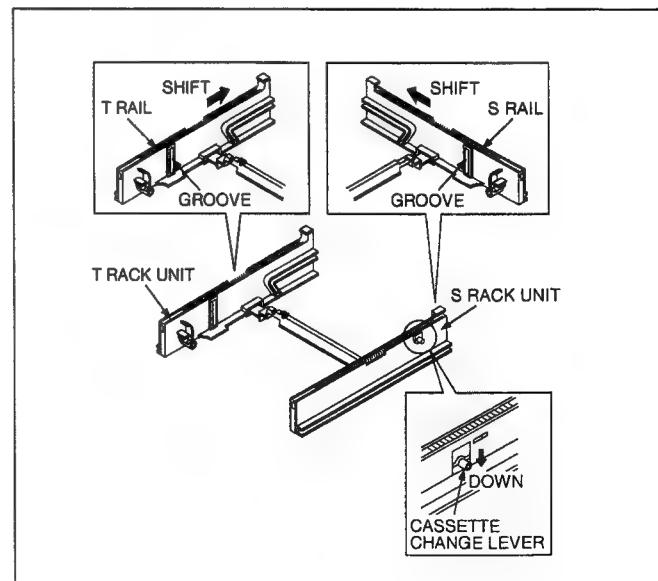

Fig. T-10
- Fig. T-10 Confirm the position of the Cassette Change Lever. (Down position)
- Fig. T-10 Shift the S and T Rail on the S and T Rack Unit to make the Tray down condition.